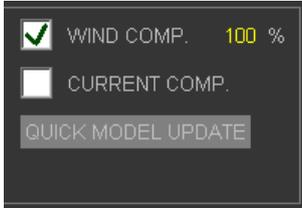

Figure 27: Wind and Current Compensation
The Environmental Settings are displayed at the bottom of the MAP screen. See *Figure 27: Wind and Current Compensation* on page 37.
- check box to enable/disable wind compensation. See *Figure 27: Wind and Current Compensation* on page 37.
Information display about current compensation: See *Figure 27: Wind and Current Compensation* on page 37.